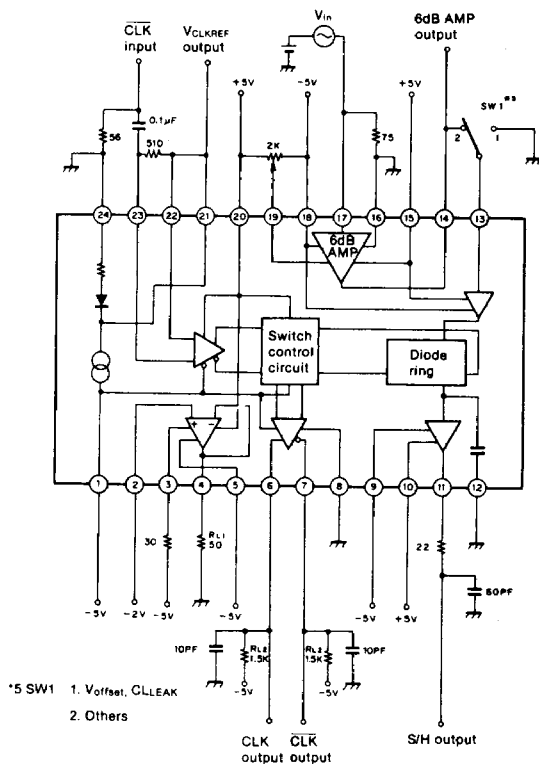

Fig. 3
S/H section (see Fig. 3)
(R_{LI} = 50Ω, see Fig. 3)
6dB amp section (see Fig. 3)
*3 2ndary harmonic: -40dB $f_{in} = 3.58MHz$ *4 $f_{in} = 3.58MHz$ $V_{in} = 1V_{pp}$ **CLK OUT section (see Fig. 3)**
-2V_{ref} amp section (see Fig. 3)